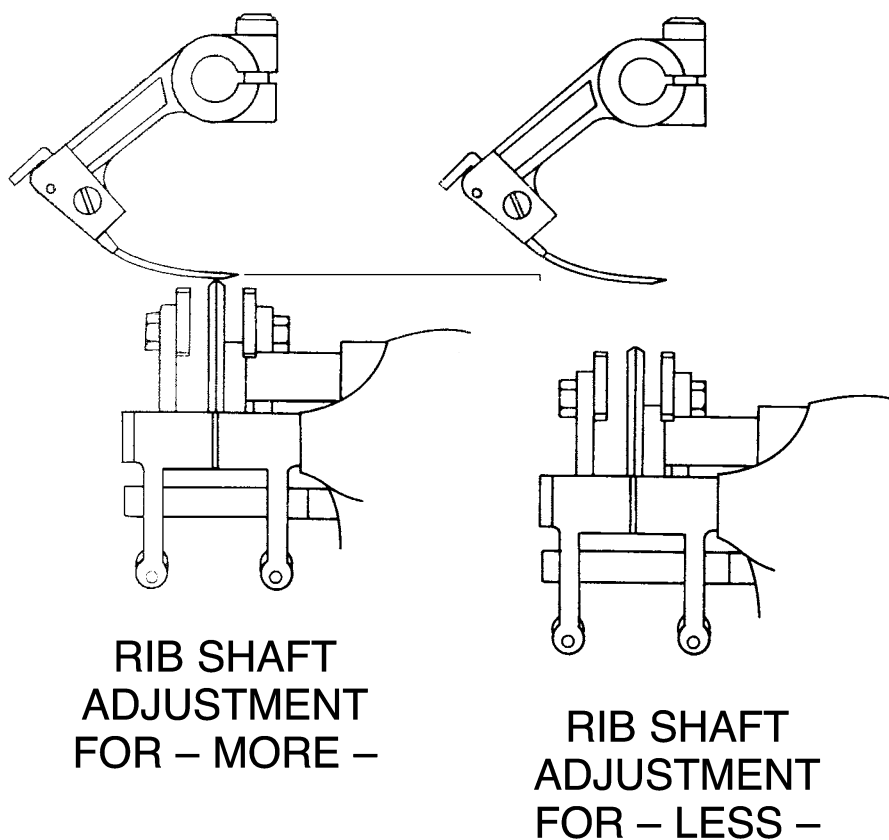

FIGURE 4
1. Because of the large variation in the thickness and nature of the fabrics encountered in production operations, U.S. BLIND STITCH machines incorporate a simple and convenient device to compensate for these variations. The exact degree of needle penetration desired is obtained by merely turning the penetration dial conveniently located on the front of the machine as shown in **Figure 4**.
2. The amount of needle penetration of the work which is obtained is governed by the gap between the needle and the oscillating rib which feeds the work into the needle. This is illustrated by the two views at the bottom of **Figure 4**. The view at the left shows a minimum gap which would be used with thinner fabrics, and the view at the right shows a large gap which would be employed with the heavier fabrics. Extremely fine adjustments between these two extremes is readily obtainable.
- a. If the needle skips material or a generally deeper and stronger penetration is desired, turn the knob on the regulating dial (**See Figure 4**) a few clicks to the left in the direction of the arrow indicating "More". This will raise the rib closer to the needle and provide more penetration. This adjustment should be made gradually, moving only a few clicks at a time, until exactly the correct amount of penetration is obtained.
- b. If too deep a penetration is obtained, turn the knob on the regulating dial (**See Figure 4**) a few clicks to the right in the direction of the arrow indicating "Less". This will lower the rib and provide less penetration.